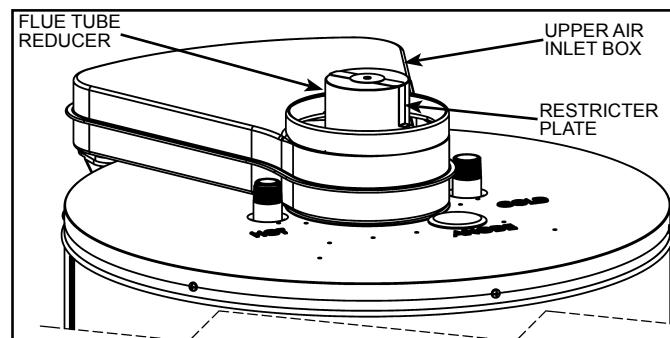
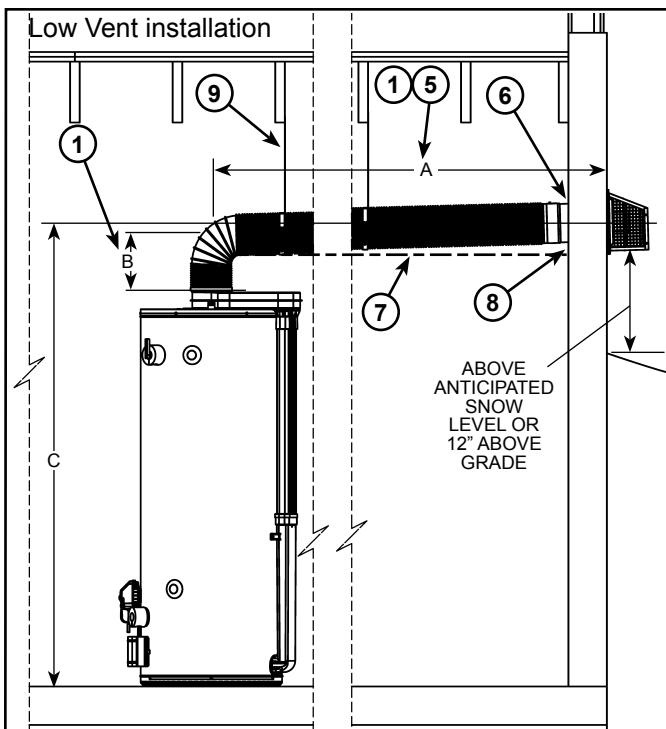
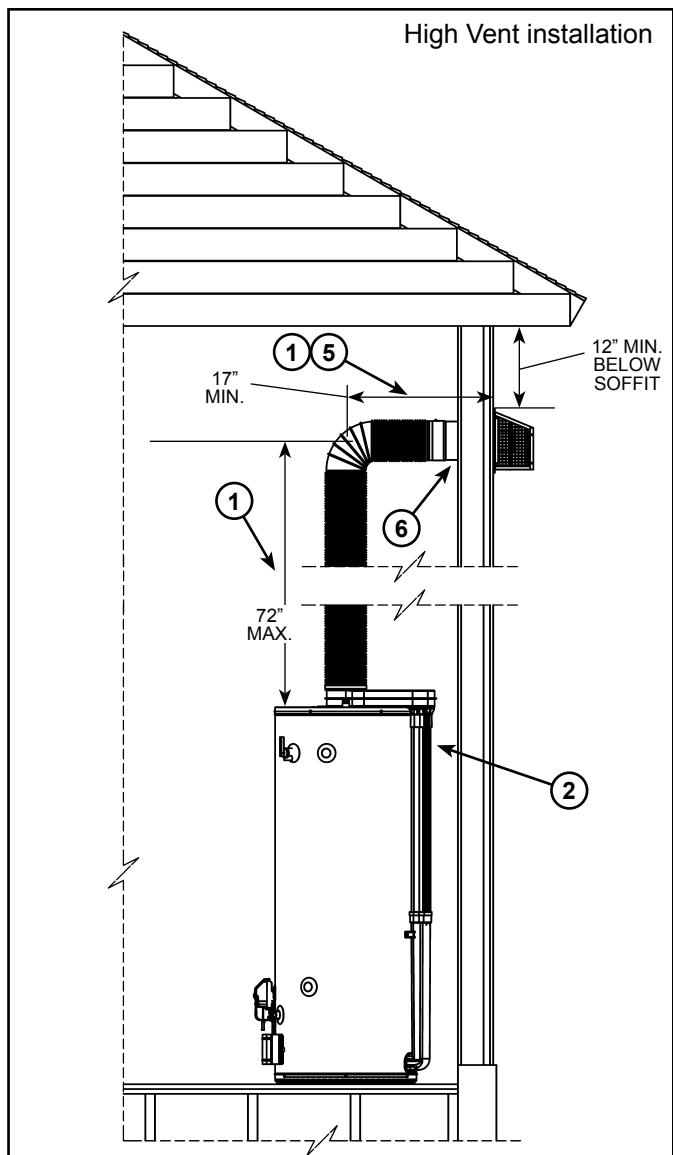
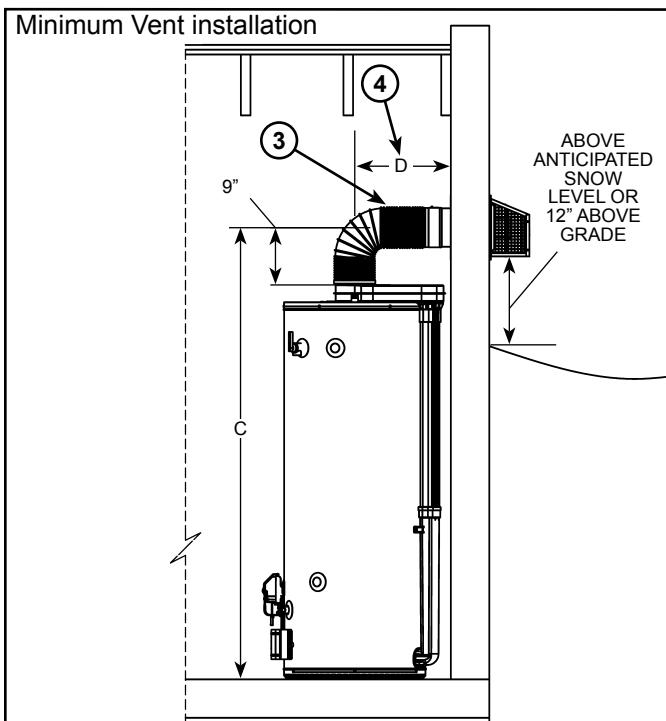

Figure 22
Figure 28
Figure 30
Figure 29
Figure 28 thru Figure 30 show various installation options.
* If the horizontal length of the venting is **less than 30"** the restricter plate must be installed (see Figure 22, Figure 28 thru Figure 30).
The vent restricter plate (see Figure 22) is required for short horizontal runs on low vent installations (see Figure 29) and high vent installations (see Figure 30).
For short horizontal vent runs (see Figure 29) place the restricter plate over the flue tube reducer before connecting the inner corrugated tube to the flue tube reducer. DO NOT use the restricter plate if the horizontal run is greater than 30".
For high vertical runs use the restricter plate only when the vertical run of the venting above the heater is greater than 48" (see Figure 30).
- NOTES: (applies to Figure 28 thru Figure 30)